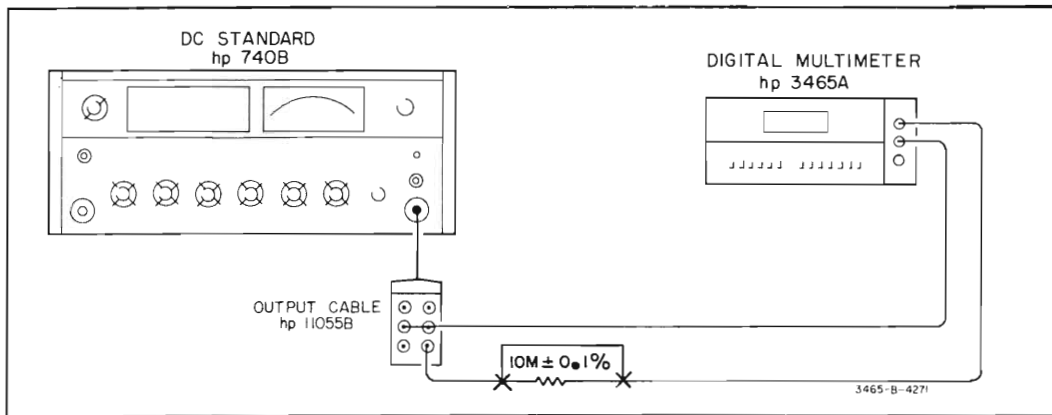

Figure 5-6. DC Voltmeter Input Resistance Test.
a. Connect the Multimeter, DC Standard and resistor as shown in Figure 5-6.